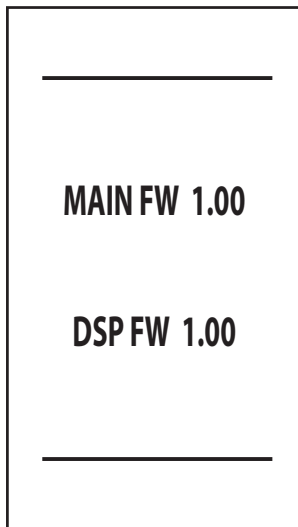

fig. 6- Switching on / Software version
- During the first 5 seconds the display shows the software version of the board and display (fig. 6).